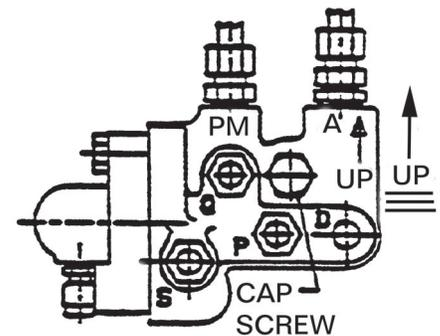

FIGURE 4
3. The sensing valve (bolted to the PG30 relief valve) must now be checked for proper orientation. Regardless of where the PG30 is mounted on the pump, the sensing valve must be bolted to a boss on the **SIDE** of the relief valve, **NOT** the top or bottom. In addition, the connections marked “A” and “PM” must point “UP” as shown in **Figure 4**. The sensing valve is moved or rotated by removing the 7/16” capscrew shown, and reinstalling after it is in the proper orientation. **NOTE** that this “UP” position is **CRITICAL** to the proper operation of the TPM System.